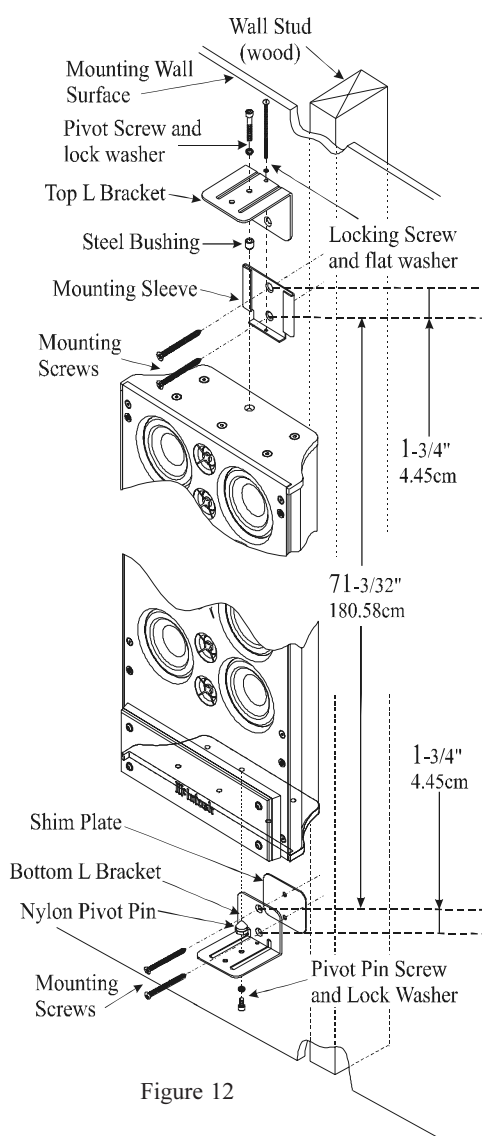

Figure 12
14. Referring to figure 12, measure down from the just mounted L Bracket and install the Bottom L Bracket together with the Shim Plate, using the supplied Mounting Screws.